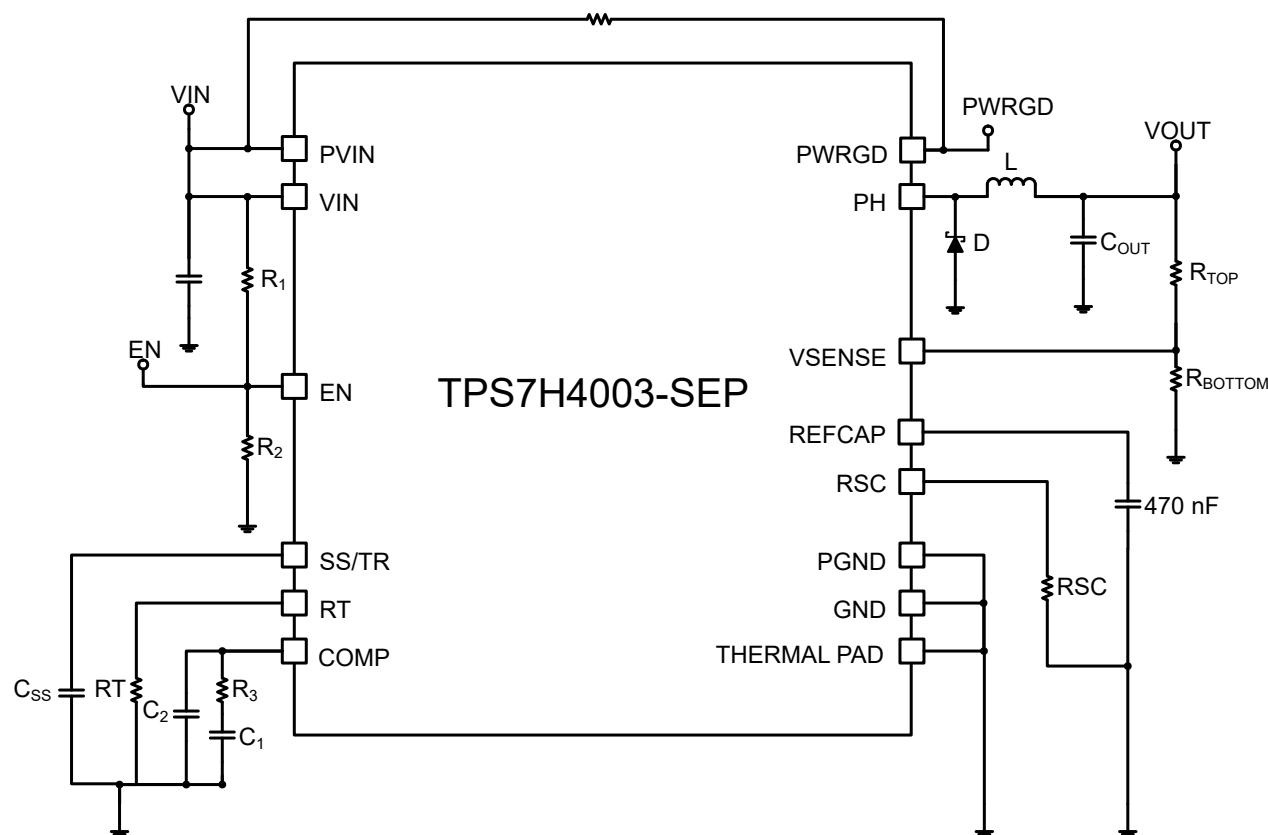

图 8-1. Typical Application Schematic
图 8-1 shows a Schottky diode between the phase node pin (PH) and GND of the TPS7H4003-SEP. This external diode is in parallel with the internal low-side power FET of the device and typically has superior reverse recovery characteristics when compared to the body diode of the internal low-side FET. This improved reverse recovery provides two key benefits. The first benefit is an better overall efficiency for the converter due to lower losses associated with the diode reverse recovery. The second key advantage is that the parasitic-induced noise associated with the reverse recovery current pulse (as detailed in Figure 5 of *Power Loss Calculation With Common Source Inductance Consideration for Synchronous Buck Converters*) is drastically reduced. In the absence of the Schottky diode, this noise can manifest itself on the power ground plane internal to the TPS7H4003-SEP. If significant enough, the noise can reduce the dynamic range of the error amplifier and result in higher output voltage ripple. For this reason, it is highly recommended to use the external Schottky diode in the converter design. At the least, a PCB footprint for the diode should be included in the PCB design phase in case it is needed to achieve the system requirements.